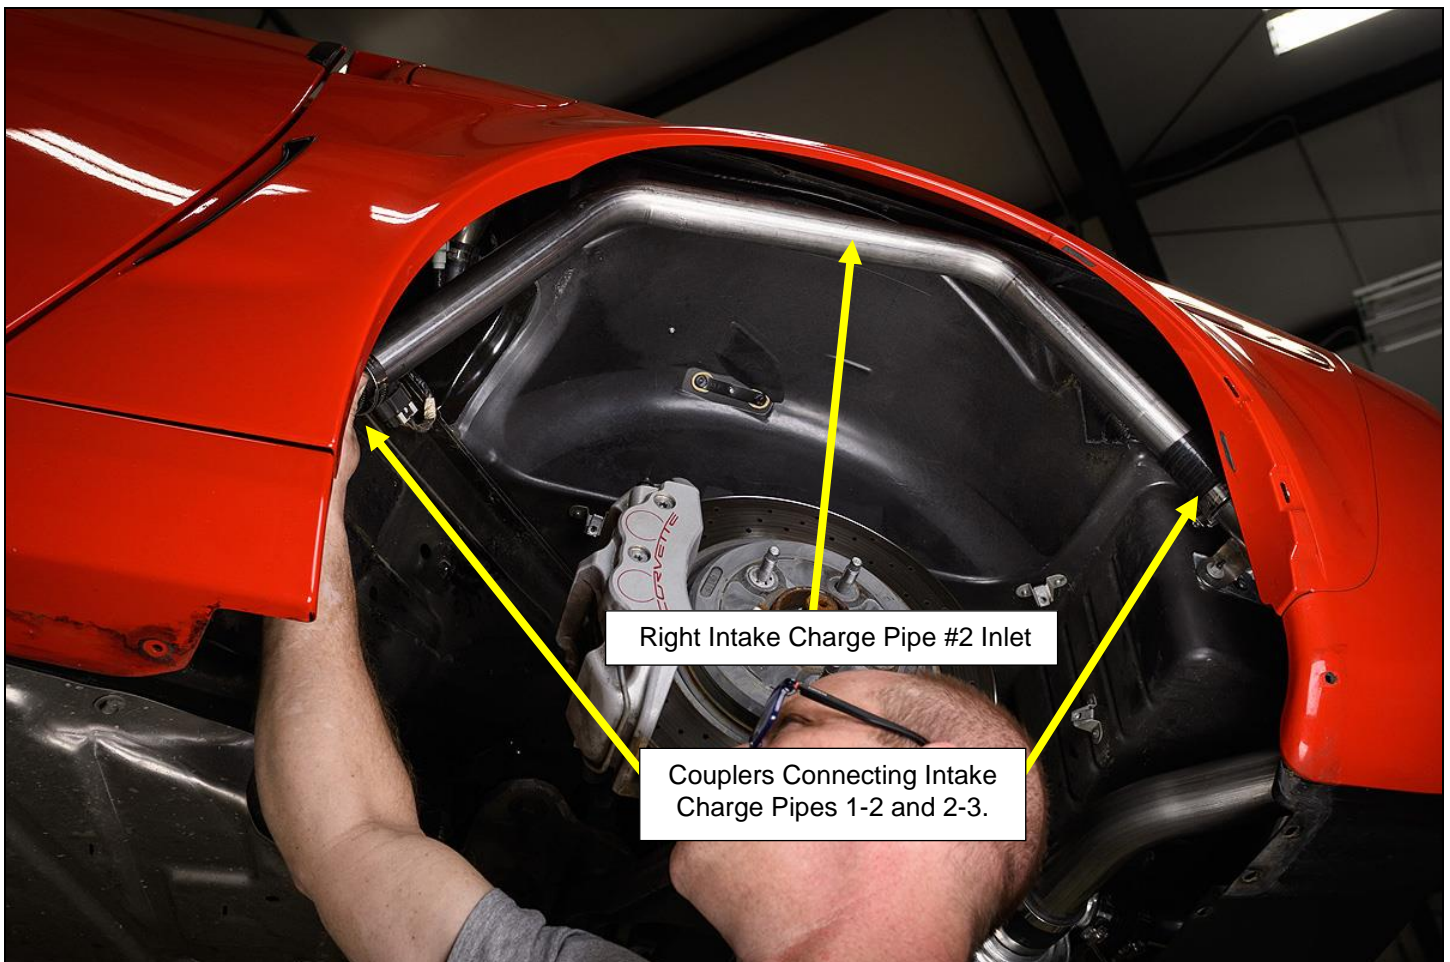

Figure 64
12. Install the left and right #2 intake charge pipes into the rear wheel well opening, align the couplers with the #1 and #3 previously installed intake charge pipes (**Figure 64**).
13. Install (x2) clamps on to each coupler, align the tubes to be connected, and slide the couplers on to the intake charge pipe connecting to it. Make sure the coupler is installed with a 50 /50 split between the two pipes being connected. Make any necessary adjustment to the intake charge pipes and tighten the clamps (**Figure 64**).